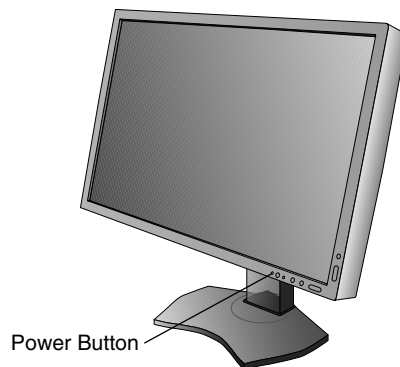

Figure E.1
- Turn on the monitor with the front power button (**Figure E.1**) and the computer.